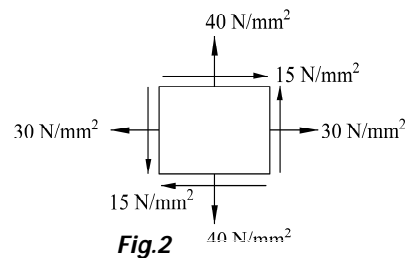

Fig.2
- (b) A square element is subjected to the two dimensional state of stress as shown in the Fig.2. Find out the major and minor principal stresses and the maximum shear stress using Mohr circle. Find out the normal and shear stresses on a plane incline at an angle 35° with the principal plane.